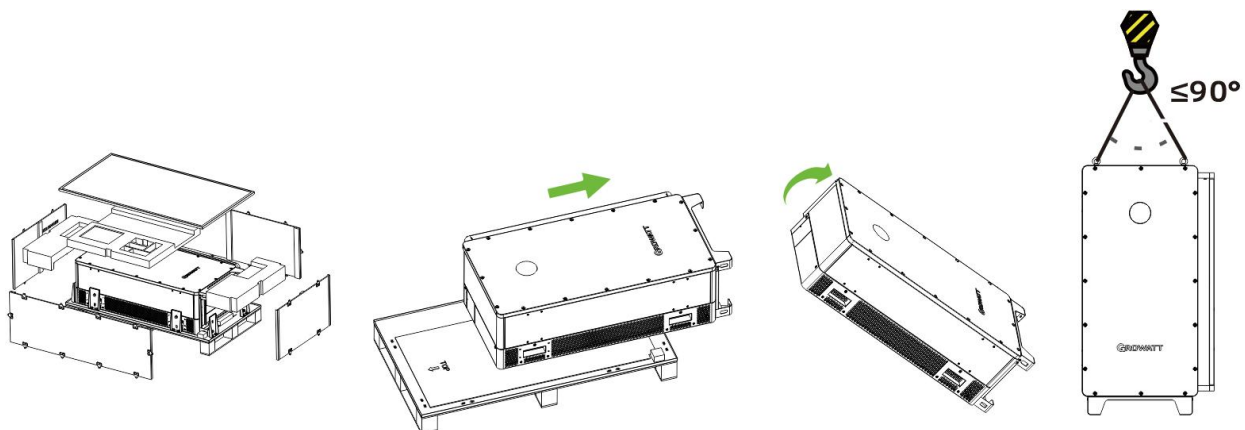
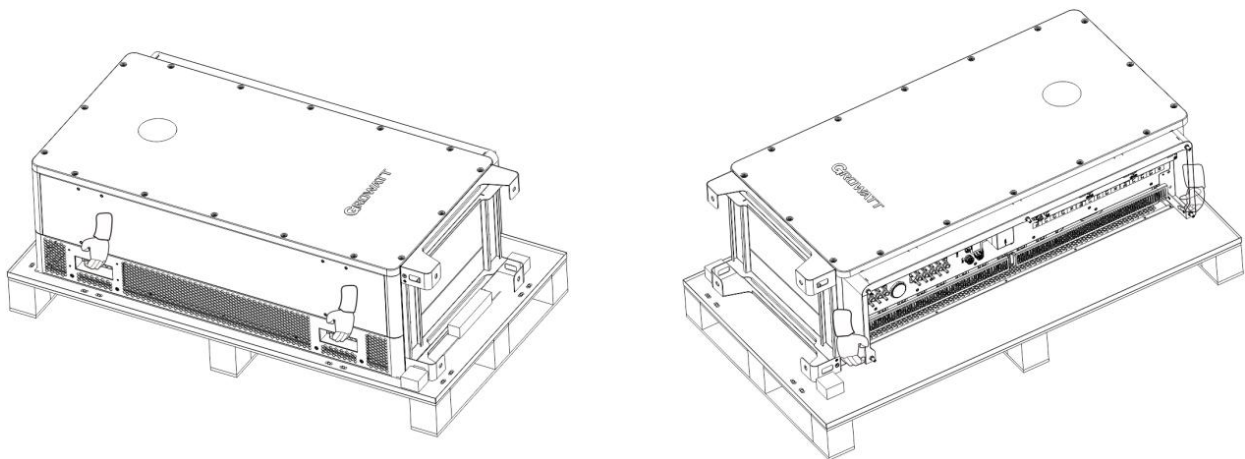

Fig 5.1 Hoisting the WIT
Fig 5.3 Lifting the WIT
- 1> As shown in Fig 5.1 below, unpack the WIT (remove the top panel and side enclosures). Install the lifting ring, lift the machine from the pallet onto the ground (handling position as shown in Figure 5.3), Run a rope strong enough to bear the inverter through the hoisting rings and hoist the equipment, and then move the inverter to the installation position;
1> Unpack the WIT (remove the top panel and the side enclosures), as shown in Fig 5.3 below. It requires four people to lift the WIT and move it to the installation position;